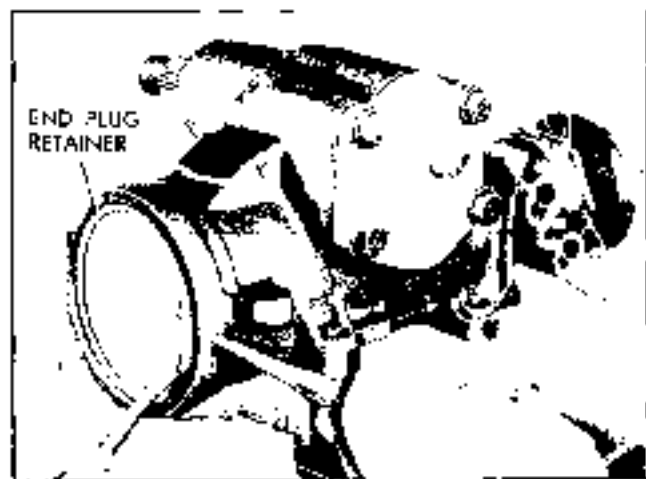

Fig. 9-48 Removing End Plug Retaining Ring
1. Remove end plug retaining ring as shown in Fig. 9-48.